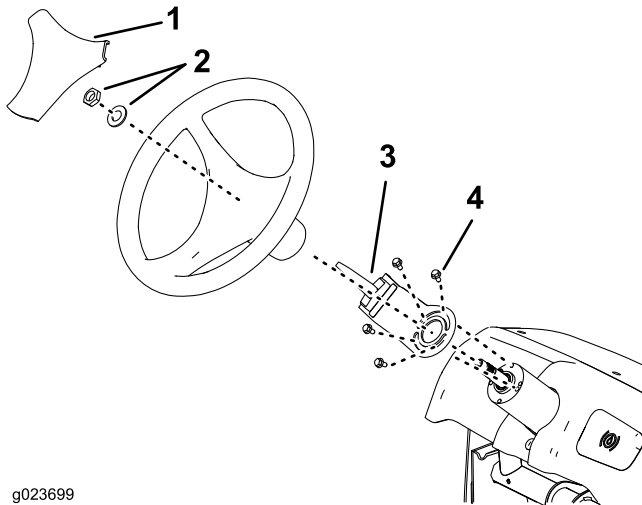

Figure 3
2. Remove the steering wheel cover plate, remove the steering wheel hardware, and pull the steering wheel off the column (Figure 3).
3. Slide the switch bracket onto the steering wheel column, and secure the bracket with the 4 bolts (Figure 3).
Foam paddle switch—activates the compressor, generating a flow of foam and air to the right or left boom section (Figure 3).